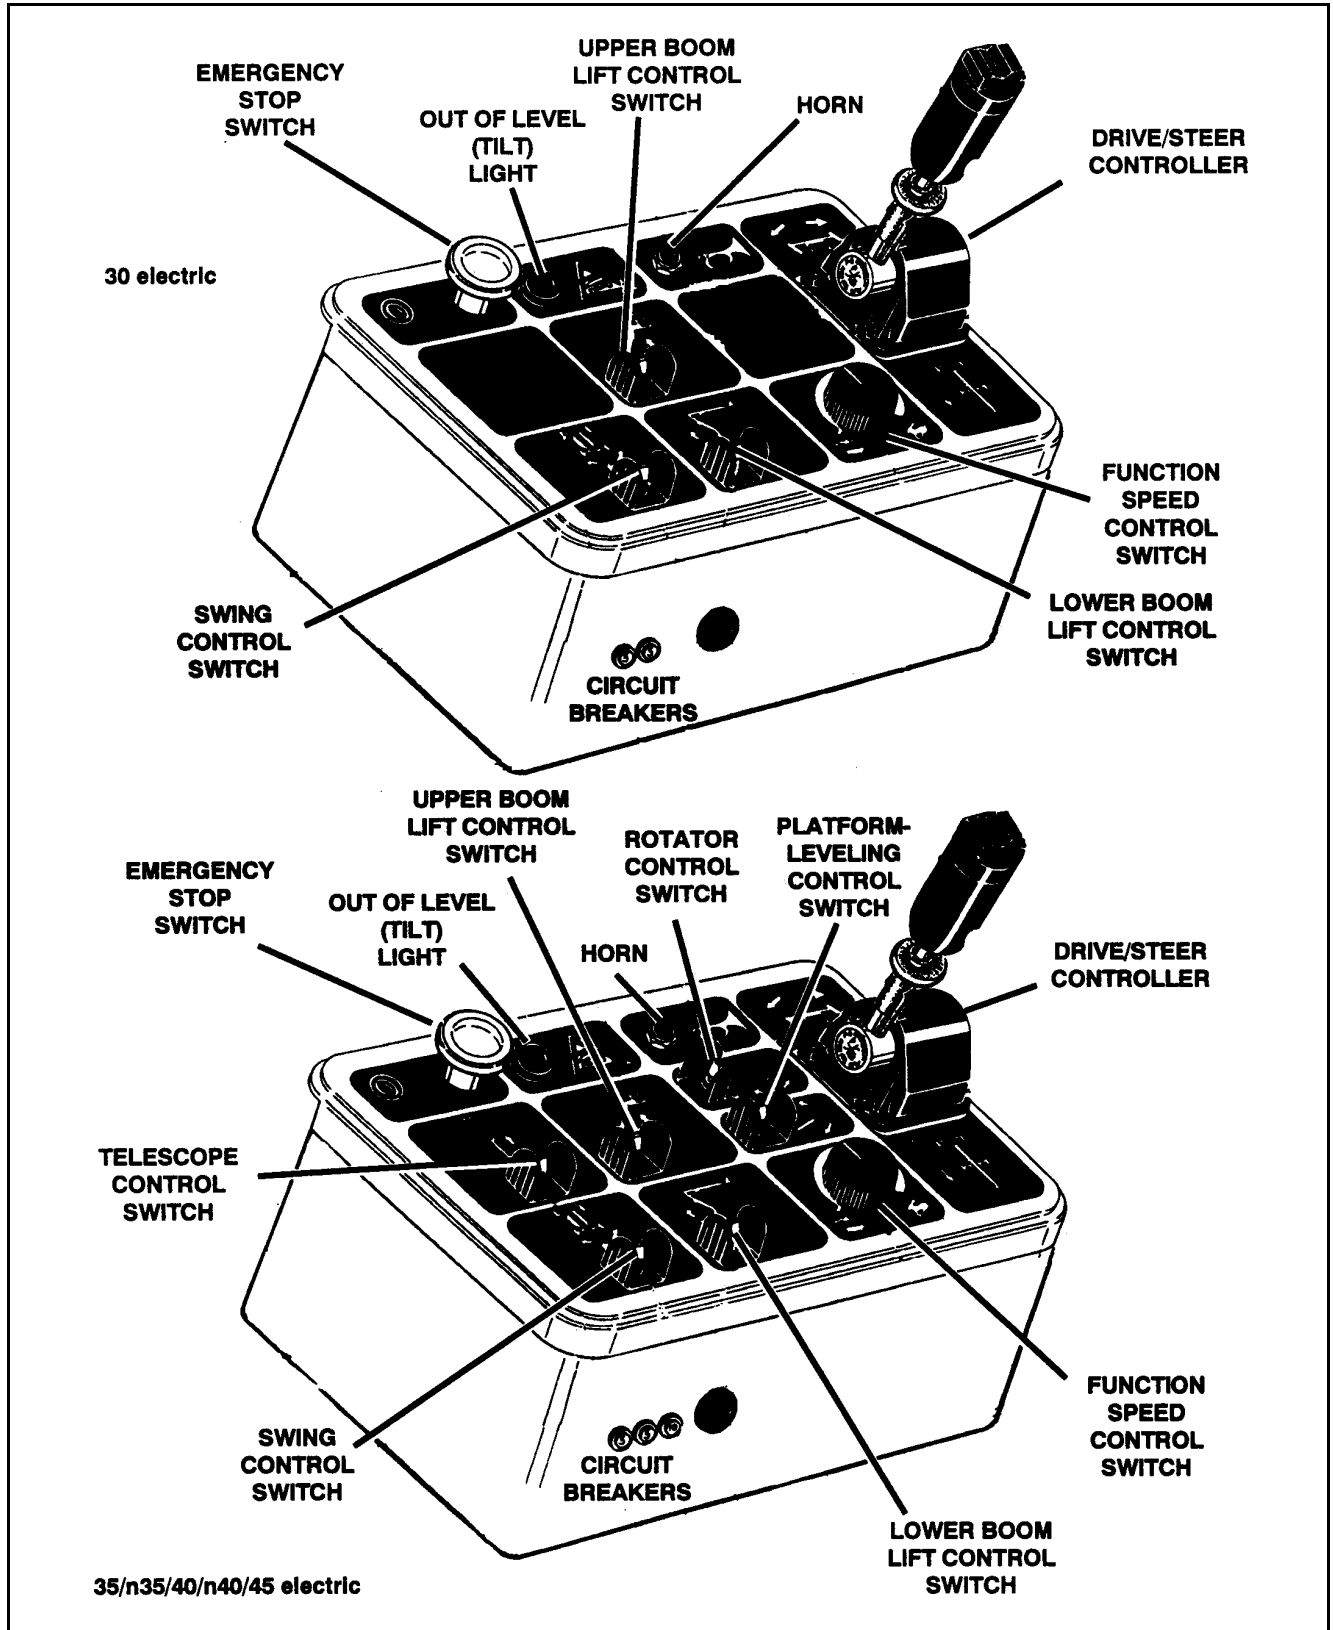

Figure 3-4. Platform Control Console.
**SECTION 3 - USER RESPONSIBILITIES AND MACHINE CONTROLS****Platform Control Station. (See Figure 3-4)****1. Footswitch.**